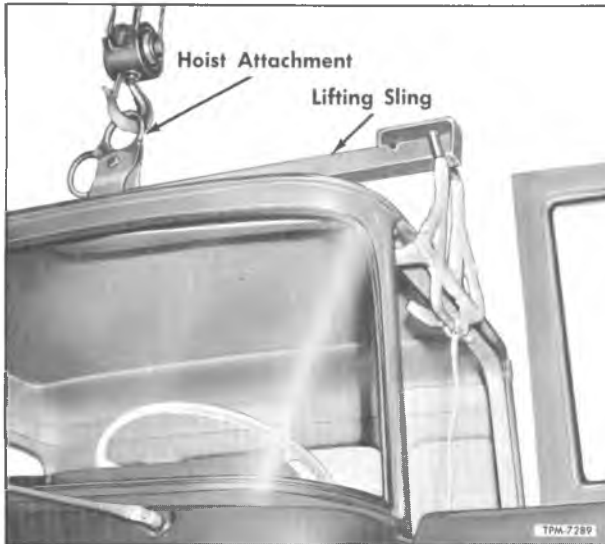

Figure 29—Lifting Sling Attached to Cab
6. Attach a suitable padded lifting sling (fig. 29) to cab with doors partly open (lifting cab with doors closed will disturb door alignment later).
1. Install lifting sling and chainfall to cab with doors slightly open (fig. 29).